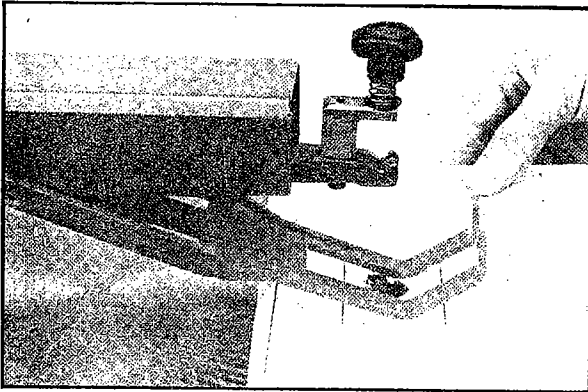

FIGURE 11
3. Place the workpiece on the saw table with drilled hole aligned over the table opening. See Figure 11.